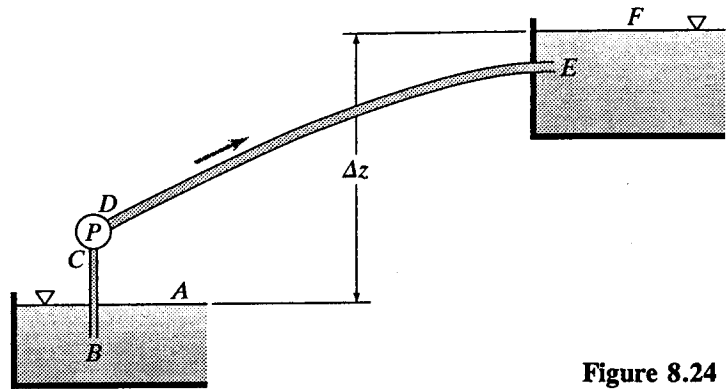

Figure 8.24
- 8.72 In Fig. 8.24 assume that the pipe diameter is 4 in, $f = 0.035$, $BC = 15$ ft, $DE = 180$ ft, and $\Delta z = 60$ ft. The elevation of C is 10 ft above the lower water surface. (a) If the pressure head at C is to be no less than -20 ft, what is the maximum rate at which the water can be pumped? (b) If the efficiency of the pump is 65 percent, what is the horsepower required?